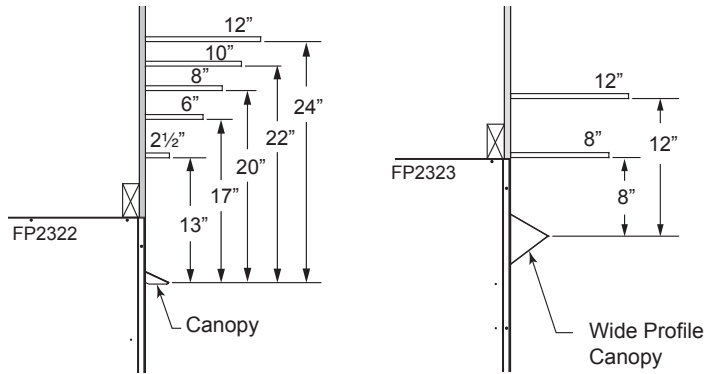

Figure 6 - Minimum Mantel Clearances for Canopy and Wide Profile Canopy
5. **Mantel clearances** — **The canopy supplied with the unit must be installed.** If a combustible mantel is installed, it must meet the clearance requirements detailed in *Figure 6*.